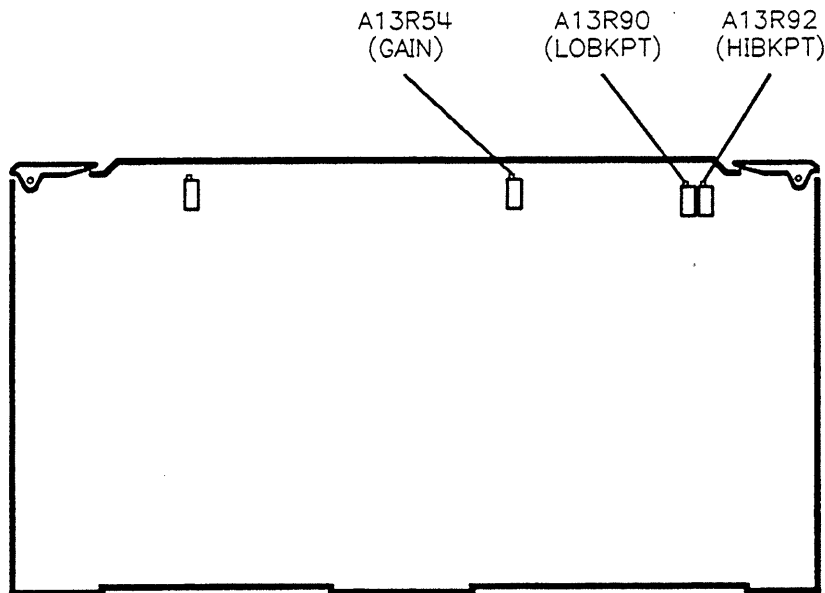

Figure 3-12. YO Gain and Linearity Adjustment Locations
4. Adjust A13R54 (see Figure 3-12) to center the "needle" on the display.
6. Adjust A13R90 (see Figure 3-12) to center the "needle" on the display.
8. Adjust A13R92 (see Figure 3-12) to center the “needle” on the display.